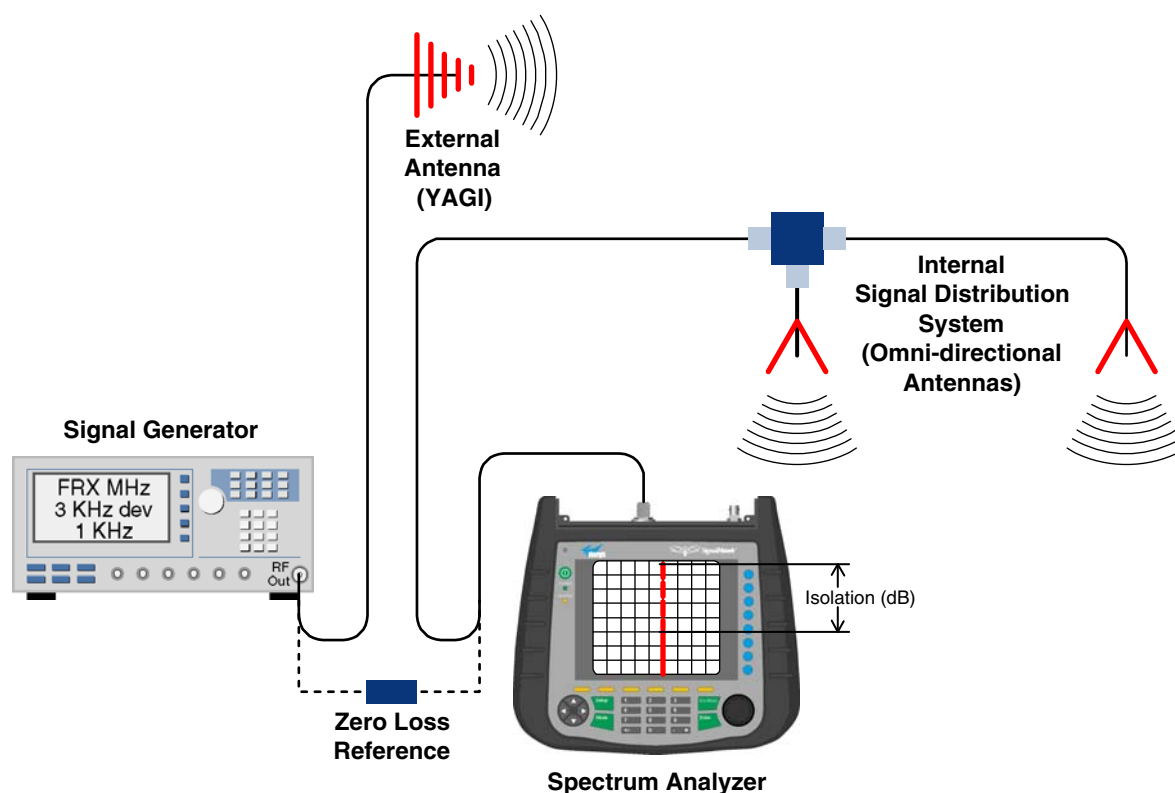

Figure 3: Typical test equipment interconnection for measuring antenna isolation.
- 3) Temporarily connect the test leads of the signal generator and spectrum analyzer together using a female barrel connector, see **Figure 3**. Observe the signal on the analyzer and adjust the input attenuator of the spectrum analyzer for a signal level that just reaches the 0 dBm level at the top of the graticule.
- 4) Referring to figure 3, connect the generator test lead to one side of the antenna system and the spectrum analyzer to the other then observe the signal level. The difference between the observed level and 0 dBm is the isolation between the sections. If the signal is too weak to observe, the spectrum analyzer's bandwidth may have to be narrowed and its input attenuation reduced. The isolation value measured